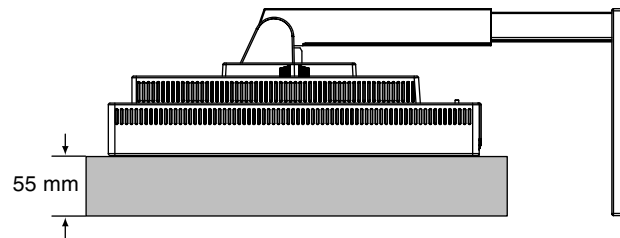

Figure S.1
3. Place monitor face down on a non-abrasive surface. (Place the screen on a 55 mm/2.2 inch platform so that the stand is parallel with the surface.) (**Figure S.1**)